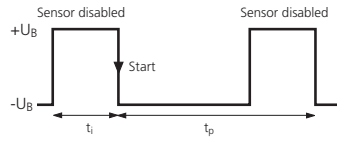

Fig. 3: External synchronization signal
■ Apply a square-wave signal to the sync-input with pulse width  $t_i$  and repetition rate  $t_p$  (Fig. 3 and technical data).